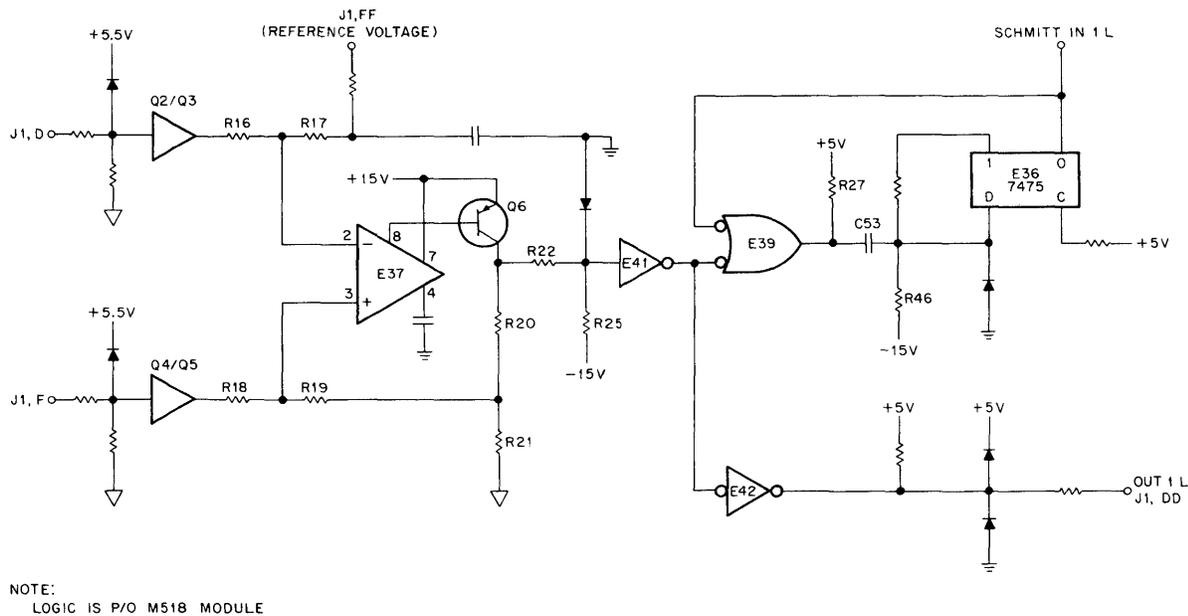

Figure 4-63 Schmitt Trigger Logic
4.6.2.9 Schmitt Trigger Logic – The Schmitt trigger logic for channel 1 is shown in Figure 4-63. The logic for channels 2 and 3 is identical to that shown for channel 1. The logic consists of a Schmitt trigger circuit, the components to the left of inverter E41, and the 2-output pulse-shaping circuits to the right of E41.